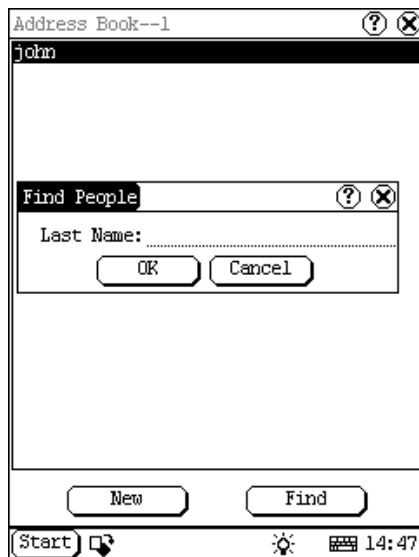

Figure 4-22
- 1) In the Address Book interface, click [Find] button to pop-up the Find People interface. See Figure 4-22.